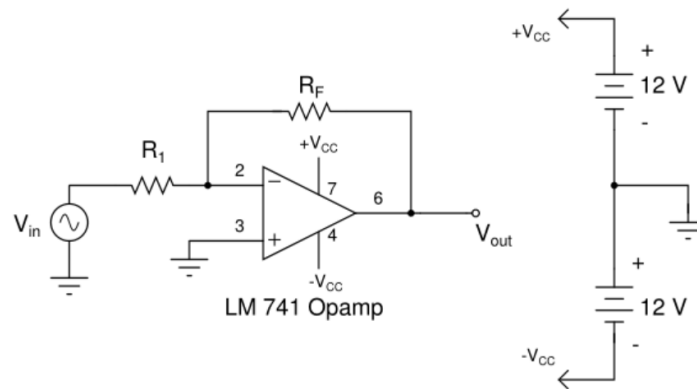

Fig. 3 Op amp inverting amplifier circuit (with $+V_{CC}$ and $-V_{CC}$ power supply connections)
- Connect V_{in} to the circuit as shown in Fig. 3 and connect it also to DSO CH1.